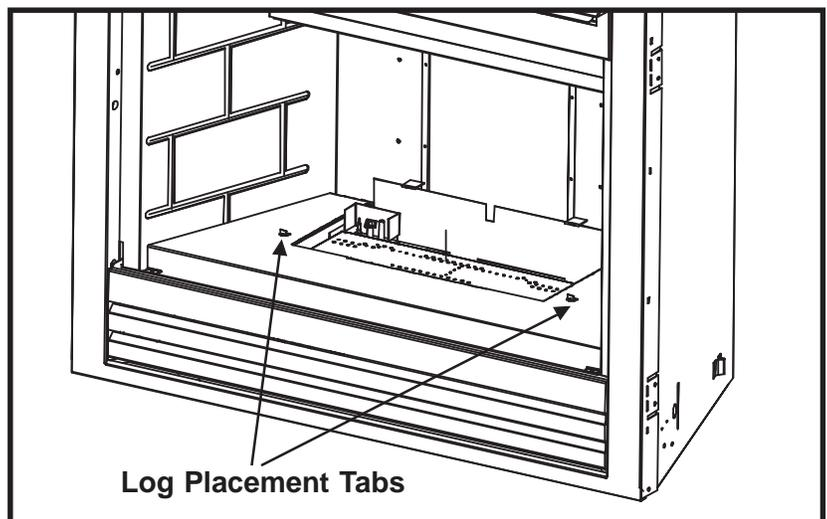

Figure 42
4. Remove the foam pad from the fireplace and discard. Make sure all pieces of the foam are removed. With a screwdriver bend up the log placement tabs (see Figure 42).